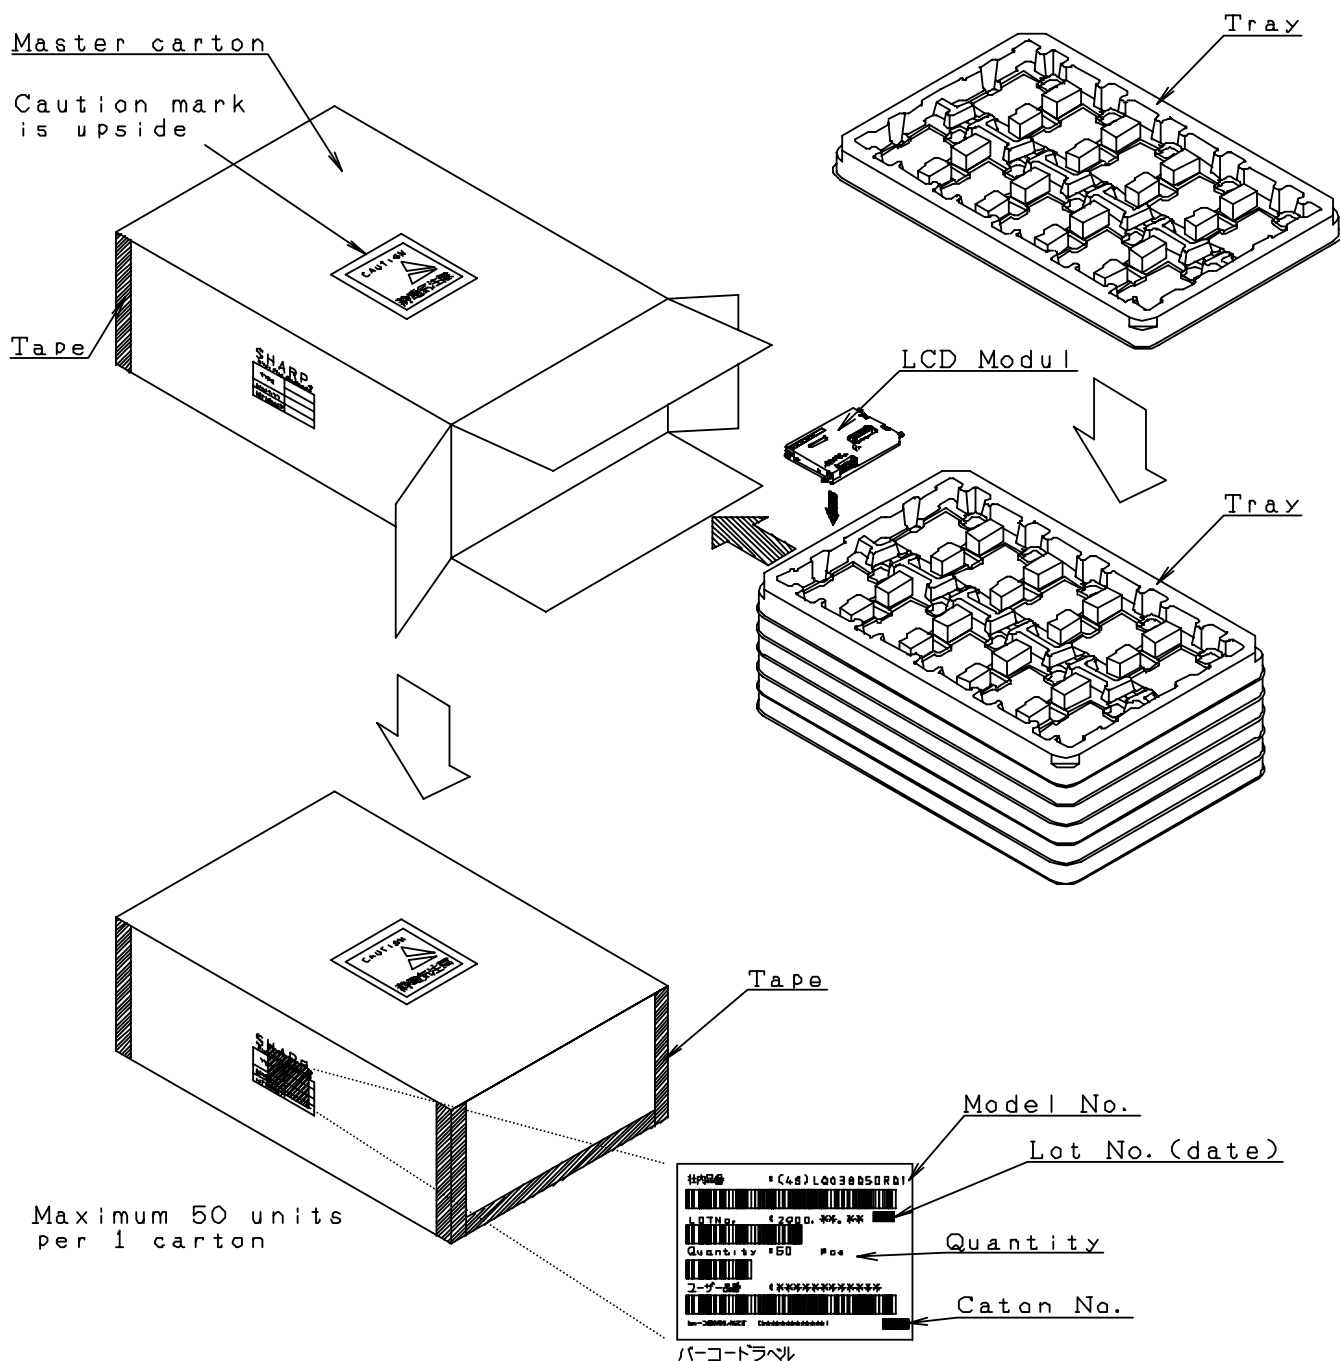

Fig.4.Packing form
(13) Packing Form (shown in Fig.4.)